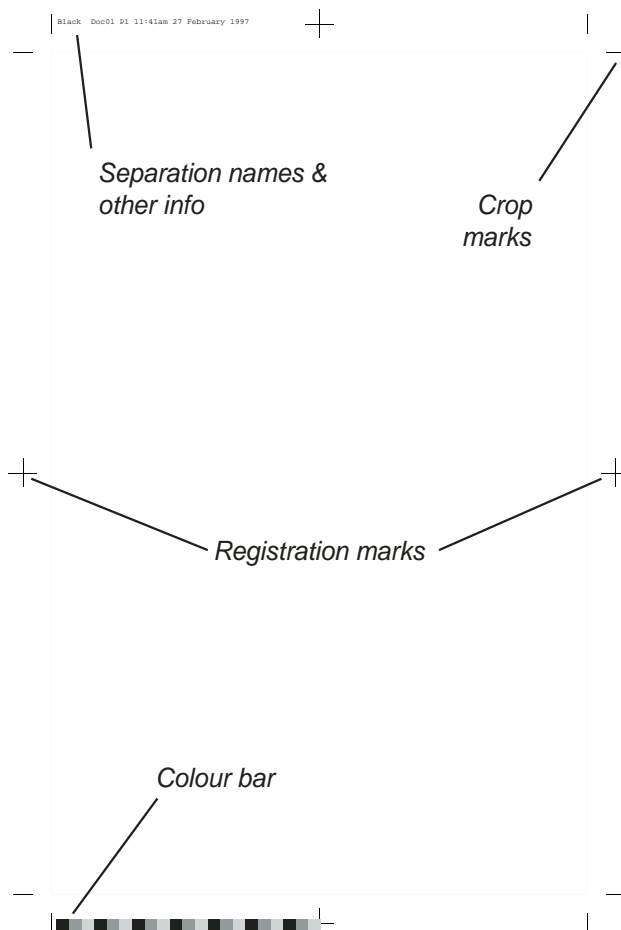

Fig. 13.9 - Printers marks.
**Printers marks** should be selected. This causes *Ovation Pro* to print the following special marks around the edge of the page (*fig. 13.9*).
The **Text** icon allows you to specify any additional text that is to be printed after the separation name in the top left corner of the page (see fig. 13.9). In addition to ASCII text you can insert macros which will be expanded during printing. The following macros are particularly useful: